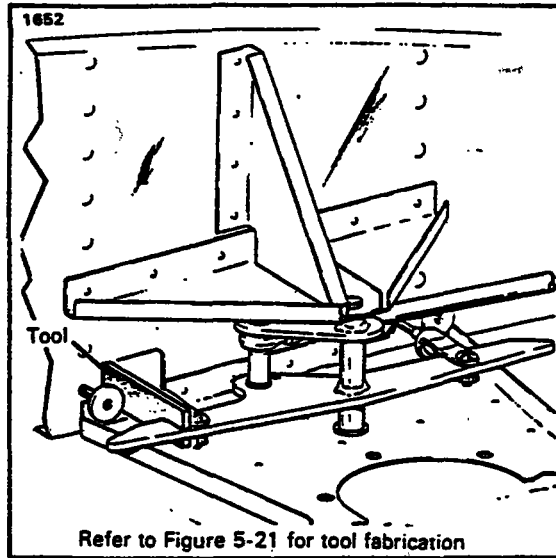

Figure 5-4. Bellcrank Rigging Tool
5-12. RIGGING AND ADJUSTMENT OF AILERON CONTROLS. (Refer to Figures 5-4 thru 5-6.)
3. Affix a bellcrank rigging tool, as shown in Figures 5-4 or 5-5, between the forward arm of each bellcrank and the adjacent rib. (This tool may be fabricated to dimensions given in Figure 5-21.) The slotted end of the tool fits on the arm forward of, and adjacent to, the primary control cable end. The other end of the tool is positioned so that the side of the tool contacts the aft side of the bellcrank stop. The bellcrank must be moved to allow a snug fit of the tool between the bellcrank arm and rib. To do so, it may be necessary to loosen a primary control cable or the balance cable. Neutral position of the bellcranks may also be found by locating the centers of the forward and aft cable connection holes an equal distance from the adjacent inboard wing rib.